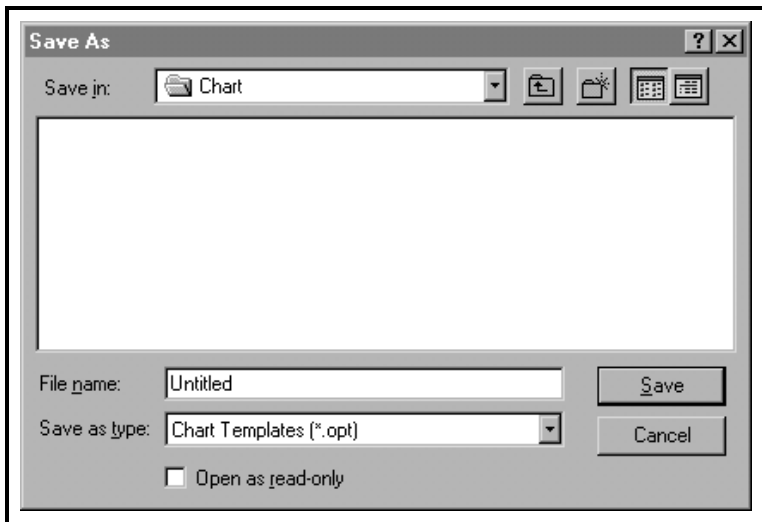

Figure 6-8: The Save Output Template Dialog Box
- Click on the “*Save Output Template*” menu option to save the current graph properties and the parameters to be graphed as a template to be used for future graphs. The dialog box shown in Figure 6-8 below appears. Enter a name for the chart (graph) template file and click on the [Save] option button to save the file as